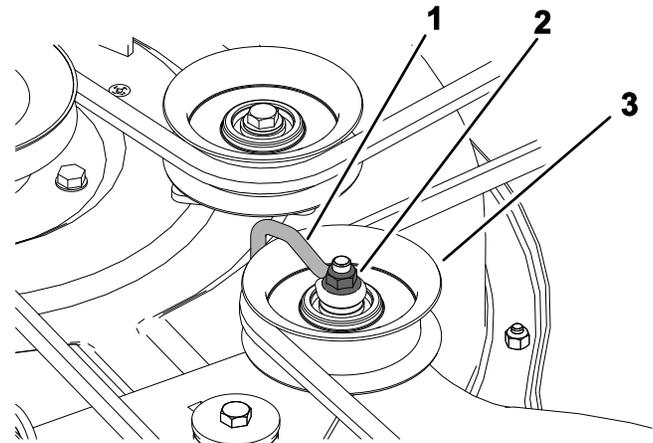

Figure 58
6. For stamped decks, loosen the nut securing the wire form to the idler pulley (Figure 58).
Note: Position the wire form against the idler arm as shown in Figure 58.